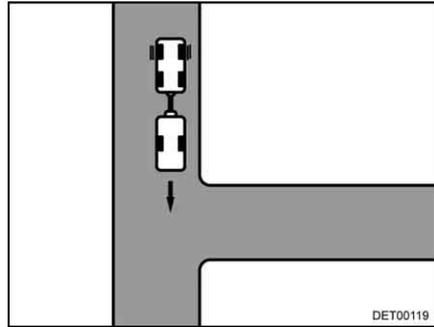

Fig. 12 Approach
- Drive up to the entrance until the rear of the caravan is roughly level with the entrance (Fig. 12).